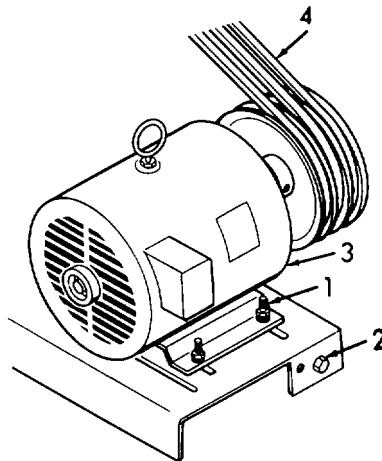

Figure 3-14. Drive Belts, Installation.
- (1) Wash the belts in a mild solution of soap (Appendix E, item 5).
- (2) Rinse thoroughly with clean water.
- (3) Allow to dry.
d. Installation. (Refer to Figure 3-14). Install belts (4) into position.